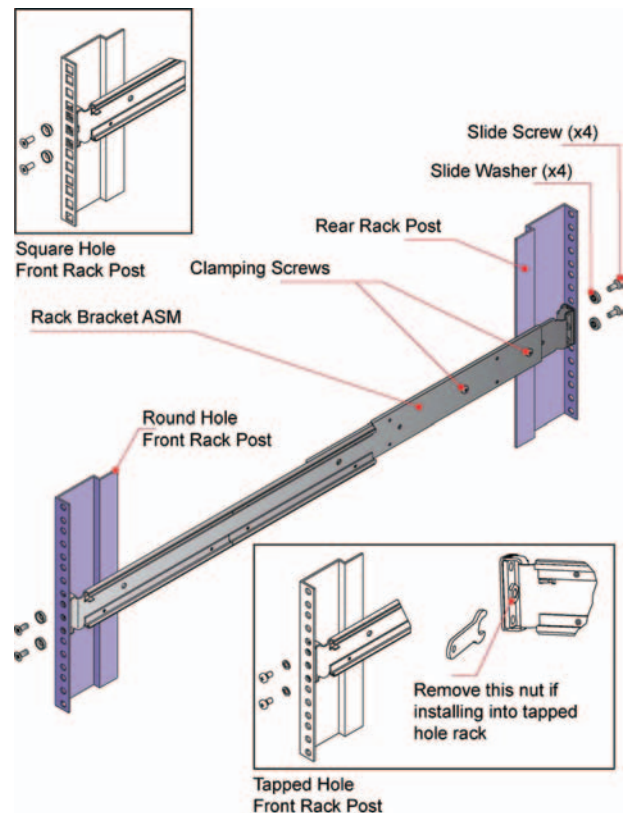

Figure 3: Securing Brackets to Rack
4. Assemble the rack brackets to the rack posts as follows (see *Figure 3*):
- d. Tighten the two clamping screws located along the inside of the rear section of the rack bracket (see *Figure 3*).